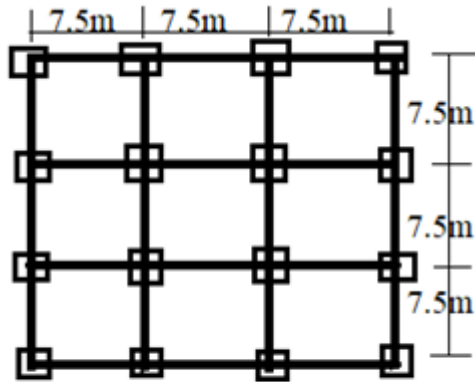

Fig.1 Q3-Plan of Building
- Q3) A four storied square RC framed residential building as shown in Fig.1 with live load [14]**